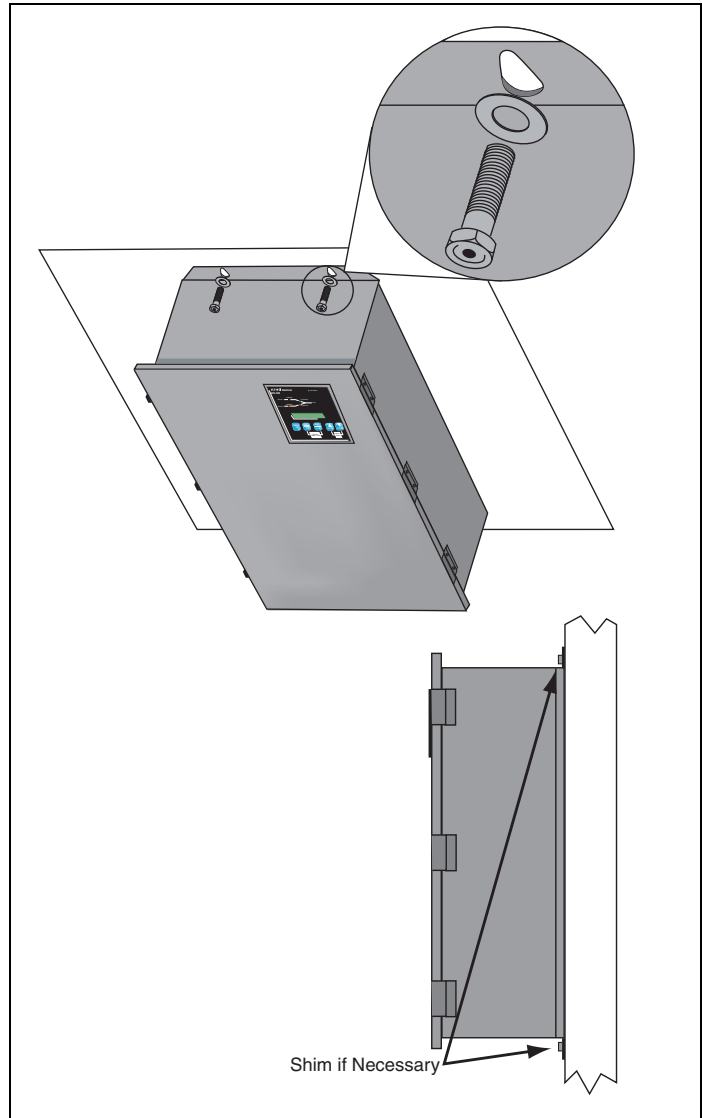

Figure 37. Mounting Details.
Step 1: Mount the ATS on a flat rigid surface (Figure 37). Shim if necessary. For seismic mounting requirements, check the main instruction sections of this manual.